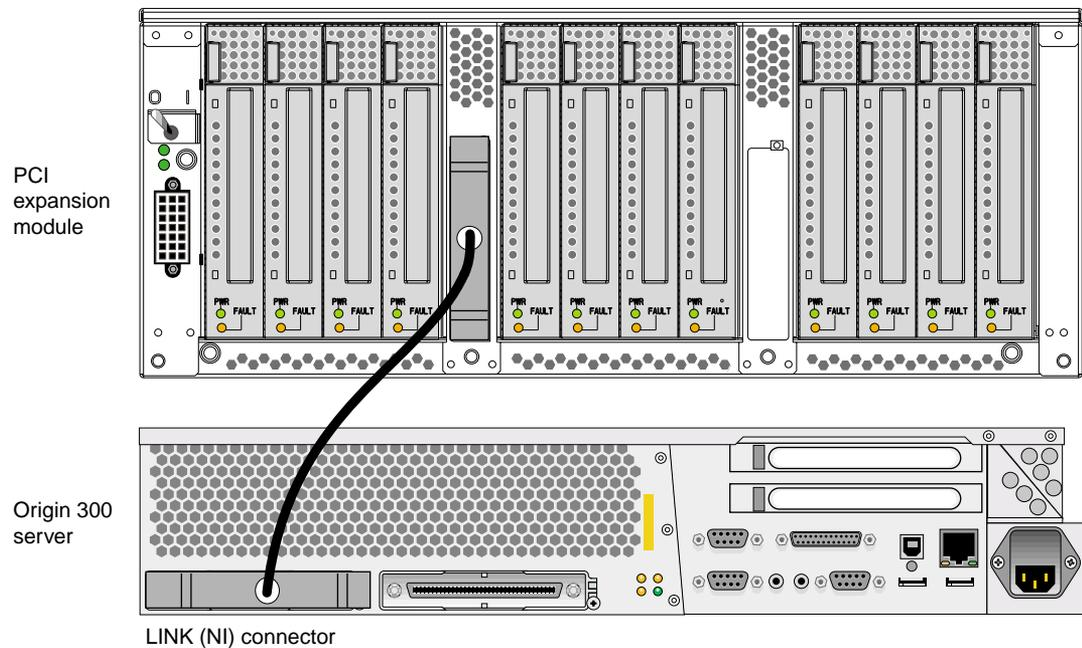

Figure 1-8 Cabling a PCI Expansion Module to an Origin 300 Server
Cable the PCI expansion module to the LINK (NI) connector of an Origin 300 server that is within 8U of the PCI expansion module (refer to Figure 1-8).